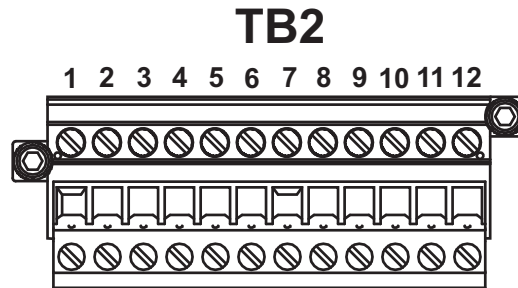

Figure 2-6 Mating terminal block (TB2) in electronics enclosure for connecting signal cables.
4. Strip back the jacket and insulation of the current loop and serial cables just enough to connect to the mating terminal block (TB2), shown in Figure 2-6. The mating terminal block can be pulled up and removed from its base to make the cable connection process easier.